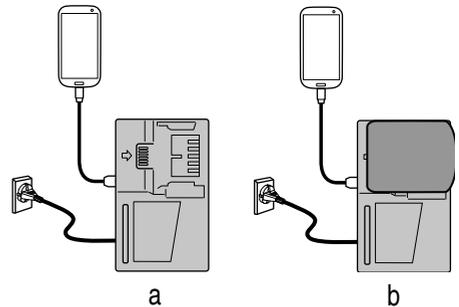

Fig. 38
- Charging a USB device from a electrical outlet. (**Fig. 38-a**)
- Charging a USB device and battery from a electrical outlet. (**Fig. 38-b**)